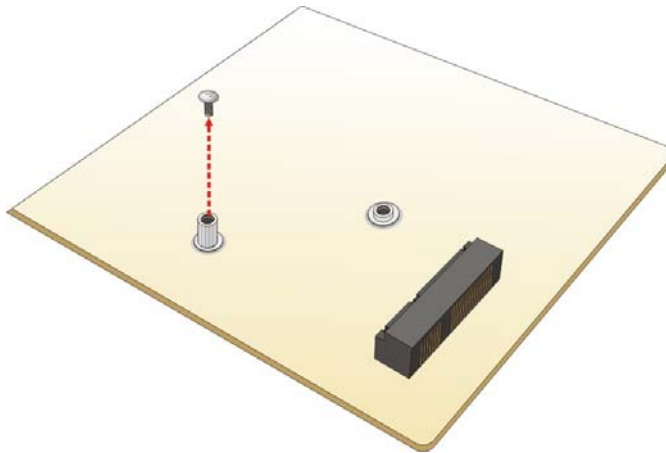

Figure 4-8: Removing the Retention Screw
- Step 3: Remove the retention screw.** Remove the retention screw as shown in **Figure 4-8**.